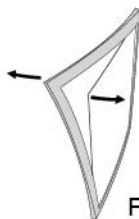

Fig.6
• **REPLACING FRONT COVER LENS.** Replacing the front cover lens if it is damaged (cracked, scratched, soiled or pitted) (See fig.6).